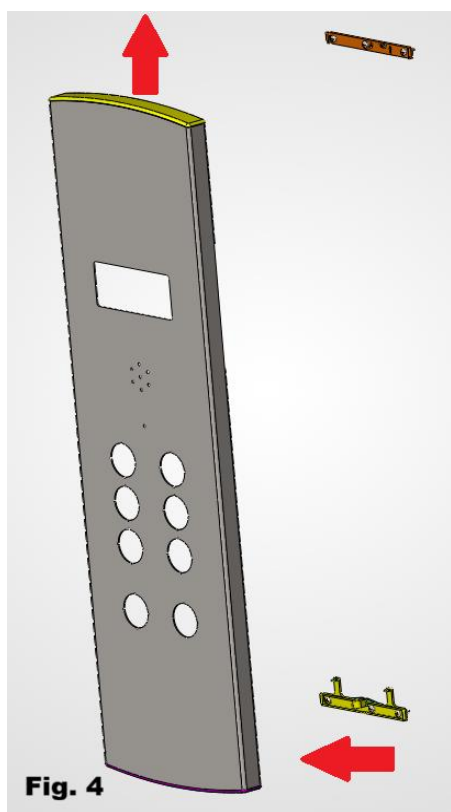

Fig. 4 — Removal of the tailpiece and detachment of the COP
1. Detach the COP from the brackets and remove the inferior part of the tailpiece (Part B) from the upper end (Fig. 4).